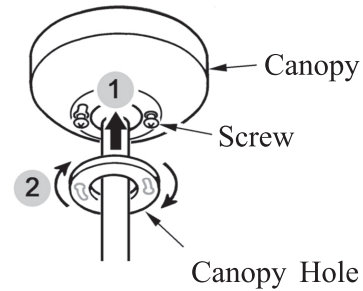

FIG.12
5. Place the canopy hole cover over the screws and twist the cover to tighten. (See fig.12)